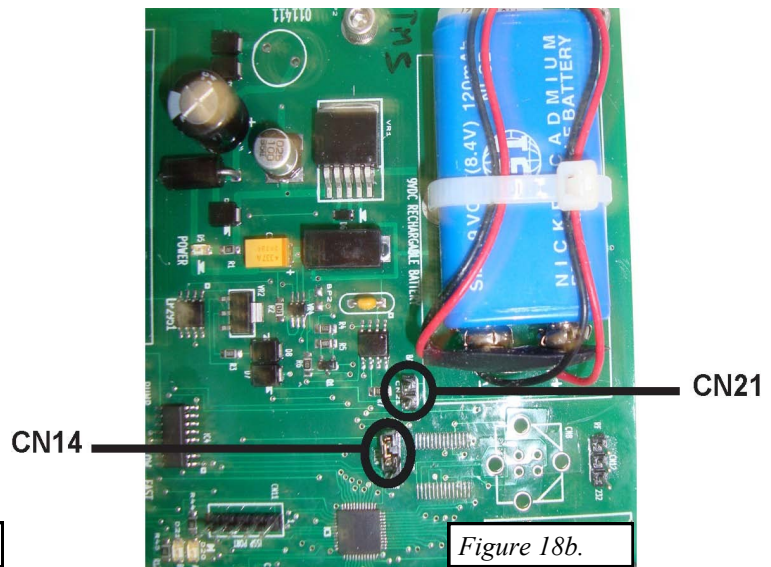

Figure 18b.
- Before powering up the dispenser, remove the jumper from **CN14** and replacing it on **CN21** (see Figure 18b, below).